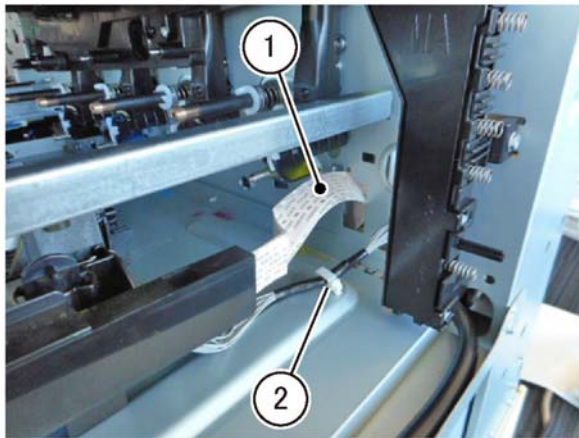

Figure 11 FFC cable
20. Insert the FFC cable (1) and the wire harness (2) into the machine, Figure 11.